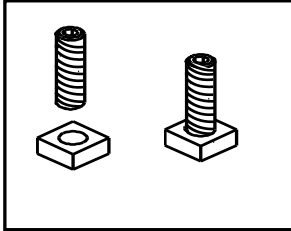

Figure 18.1
1. Thread Allen bolts through nuts until flush. **Figure 18.1.** The Allen bolts and nuts are included in the component pack inside the stove firebox.